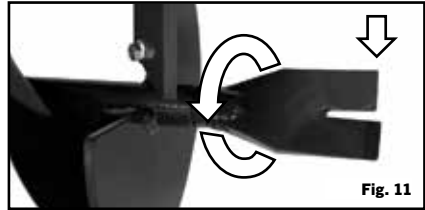

Fig. 11
6. To Replace the Fishtail Point, unscrew the point using an adjustable wrench to grip the side of the Fishtail Point. Replace with new part (see Figure 11).